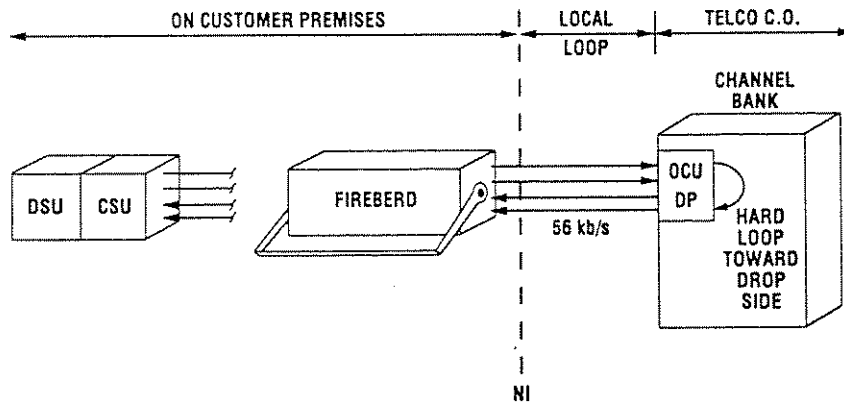

Figure 1-9
Figure 1-9 shows a FIREBERD 6000 equipped with a DDS Local Loop Data Interface Module at the customer premises. A manual (i.e., hard) loopback at the OCU sends the transmitted data back to the FIREBERD for analysis. Once the loopback is established, the FIREBERD can test the network from the customer side (or DROP side) of the OCU to the location of the loopback.
4.	Using the MENU switch: a. Configure the DDS Local Loop Data Interface Module using INTF SETUP. Select these softkeys: 1. DDSLL to access the DDS Local Loop Data Interface Module. 2. RATE to access the data rate menu. 3. MORE 56.0K to test the 56 kb/s circuit shown in Figure 1-9, or any pattern that is appropriate for your test. 4. Δ CHAN to enter the channel selection menu. 5. ON to indicate the presence of a secondary channel. 6. PRI to select primary channel analysis. 7. 511, 2047, or IDLE as secondary pattern selection. (Primary pattern is selected via DATA switch.) 8. $\Delta \Delta \Delta$ TX LEVEL to access the transmit level menu. 9. Δ MORE 0 dB to add no additional loss to the transmit level. 10. TXCLK to access the timing source menu. 11. RECOV to recover timing from the DDS network. 12. Δ ERRINS to select the error insert menu. 13. OFF to turn off error insertion.